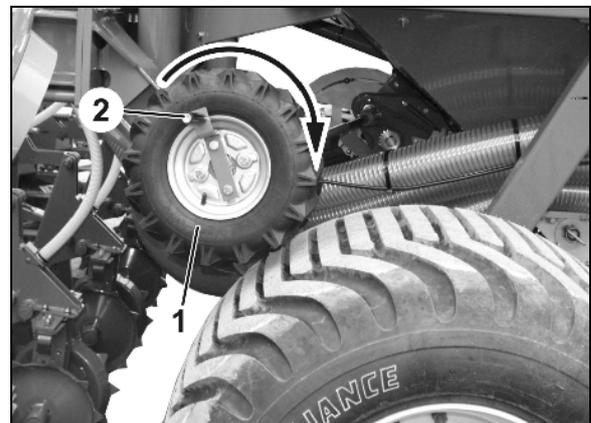

Fig. 98
9. Turn the drive wheel with the calibration crank handle (Fig. 98/1) in the direction of the arrow until all chambers of the dosing rollers are filled with seed and a uniform seed stream flows into the calibration troughs.
13. Turn the drive wheel in the direction of the arrow using the calibration crank (Fig. 98/1).